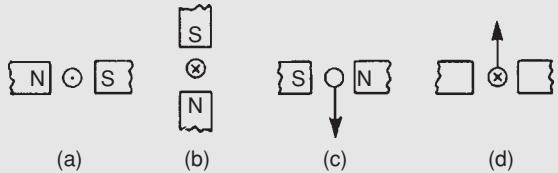

Figure 8.15
Problem 5. With reference to Fig. 8.15 determine
- (a) the direction of the force on the conductor in Fig. 8.15(a), (b) the direction of the force on the conductor in Fig. 8.15(b), (c) the direction of the current in Fig. 8.15(c), (d) the polarity of the magnetic system in Fig. 8.15(d).